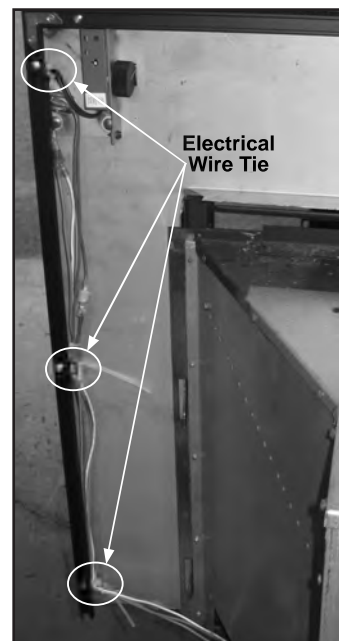

Figure 22: Wire ties holding wires against the panel
9. Connect the wires from the unit to the ON/OFF/THERMOSTAT switch mounted on the surround panel (see figure 22)